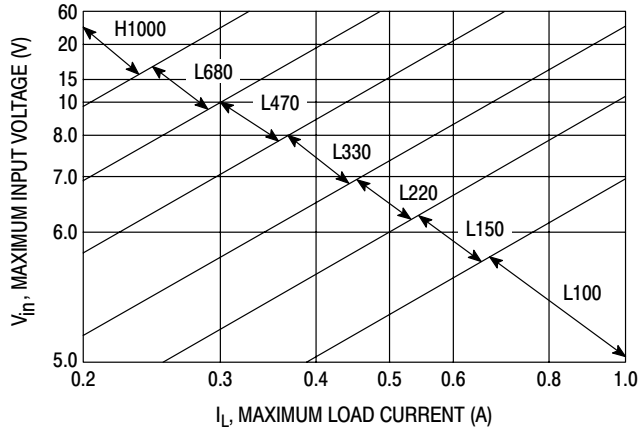

Figure 17. LM2575-3.3
4. Inductor Selection ($L1$) A. According to the required working conditions, select the correct inductor value using the selection guide from Figures 17 to 21. B. From the appropriate inductor selection guide, identify the inductance region intersected by the Maximum Input Voltage line and the Maximum Load Current line. Each region is identified by an inductance value and an inductor code. C. Select an appropriate inductor from the several different manufacturers part numbers listed in Table 1 or Table 2. When using Table 2 for selecting the right inductor the designer must realize that the inductor current rating must be higher than the maximum peak current flowing through the inductor. This maximum peak current can be calculated as follows: $I_{p(max)} = I_{Load(max)} + \frac{(V_{in} - V_{out}) t_{on}}{2L}$ where t_{on} is the “on” time of the power switch and $t_{on} = \frac{V_{out}}{V_{in}} \times \frac{1}{f_{osc}}$ For additional information about the inductor, see the inductor section in the “External Components” section of this data sheet.	4. Inductor Selection ($L1$) A. Use the inductor selection guide shown in Figures 17 to 21. B. From the selection guide, the inductance area intersected by the 20 V line and 0.8 A line is L330. C. Inductor value required is 330 μ H. From the Table 1 or Table 2, choose an inductor from any of the listed manufacturers.
To simplify the inductor selection process, an inductor selection guide for the LM2575 regulator was added to this data sheet (Figures 17 through 21). This guide assumes that the regulator is operating in the continuous mode, and selects an inductor that will allow a peak-to-peak inductor ripple current to be a certain percentage of the maximum design load current. This percentage is allowed to change as different design load currents are selected. For light loads (less than approximately 200 mA) it may be desirable to operate the regulator in the discontinuous mode, because the inductor value and size can be kept relatively low. Consequently, the percentage of inductor peak-to-peak current increases. This discontinuous mode of operation is perfectly acceptable for this type of switching converter. Any buck regulator will be forced to enter discontinuous mode if the load current is light enough.